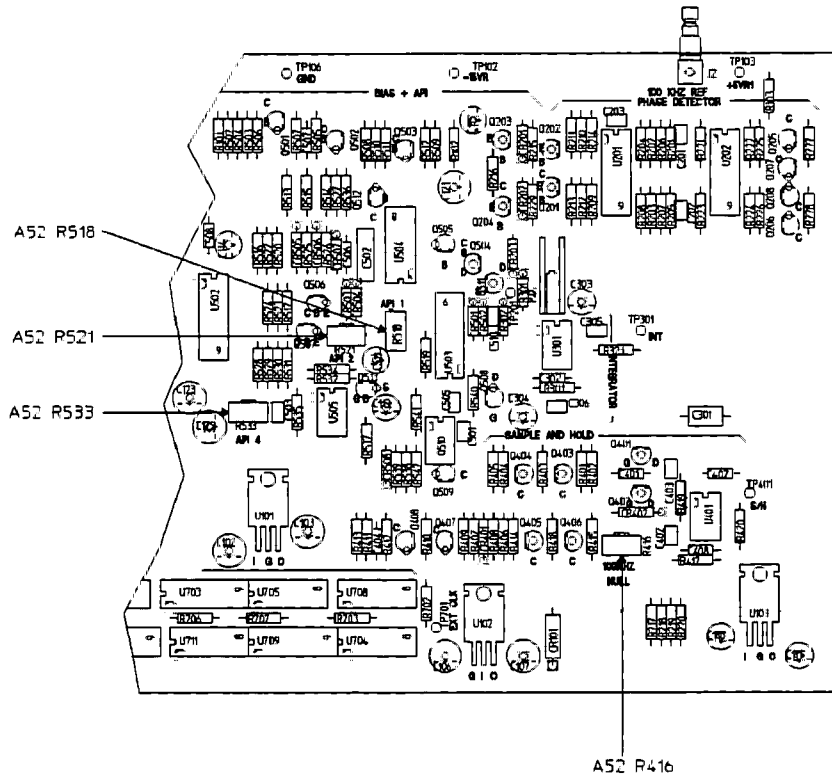
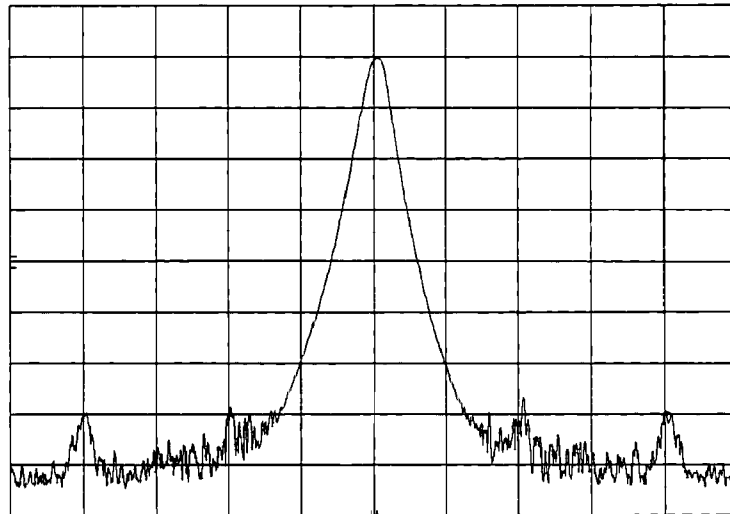

Figure 5-3. A52 Fractional-N Component Locator
Figure 5-4. Spurs Out of Adjustment
5. Set the power switch to ON (I), then press the following keys:
6. Adjust A52 R416 (see figure 5-3) for a minimum spur level at approximately 400.2 MHz (figure 5-4 shows the spurs out of adjustment).